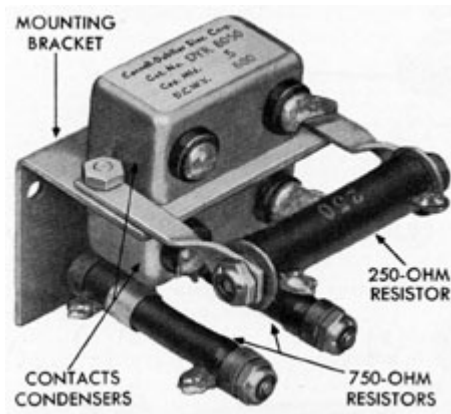

Figure 13-44. Condenser and resistor assembly removed.
**13G31. Removing the 250-ohm resistor.** (See Figure 13-44.) Remove the unit from case. Unsolder and tag the leads. Remove one elastic stop nut and flat washer from one end of the resistor shaft, and pull the resistor from the shaft.
**13G32. Installing the 250-ohm resistor.** (See Figure 13-44.) lace the resistor in position on the resistor shaft in the mounting bracket, and install the flat washer and elastic stop nut securing the resistor to the bracket. Solder the leads to the resistor. Install the unit in its case.
**13G33. Replacing the 750-ohm resistor.** (See Figure 13-44.)
**13G29. Removing the condenser.** (See Figure 13-44.) Remove the unit from the case. Unsolder and tag the leads at the condenser. Remove the two screws, nuts, and lock washers that secure the condenser to the mounting bracket, and remove the condenser. The other condenser is removed in the same manner.
**13G30. Installing the condenser.** (See Figure 13-44.) Place the condenser in position on the mounting bracket, and secure it with the two screws, lock washers, and nuts provided. Solder the leads to the condenser. Install the unit in the case.
**13G34. Removing the condenser and resistor assembly as a unit.** (See Figure 13-44.) Remove the unit from the case. Unsolder and tag the ten leads. Remove the three screws that secure the condenser and resistor mounting bracket to the back of the main mounting plate, and remove the condenser and resistor assembly.
**13G35. Installing the condenser and resistor assembly as a unit.** (See Figure 13-44.) Place the condenser and resistor mounting bracket in position on the mounting plate, and secure with the three screws. Solder the leads to the condensers and resistors.